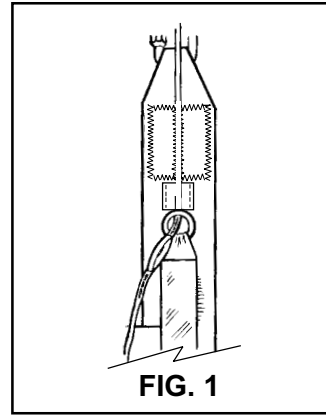

FIG. 1
4. Set the deployment brakes on each side by pulling the control line down through the guide ring until the brake loop just passes through the guide ring (FIG. 1).